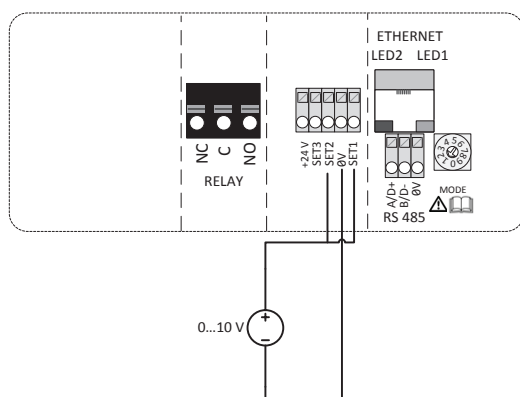

Fig 4
- 1.1.1. Wire 0-10 Vdc "+" to "Set 1" and "Set 3" terminals. Wire 0-10 Vdc "-" to 0V terminal – Fig 4
Note: Insure that Mode Dial is set to Mode 1. Changing modes needs a hard reset (powered off for 10 seconds and powered on) for mode setting change to take effect (Fig 4)